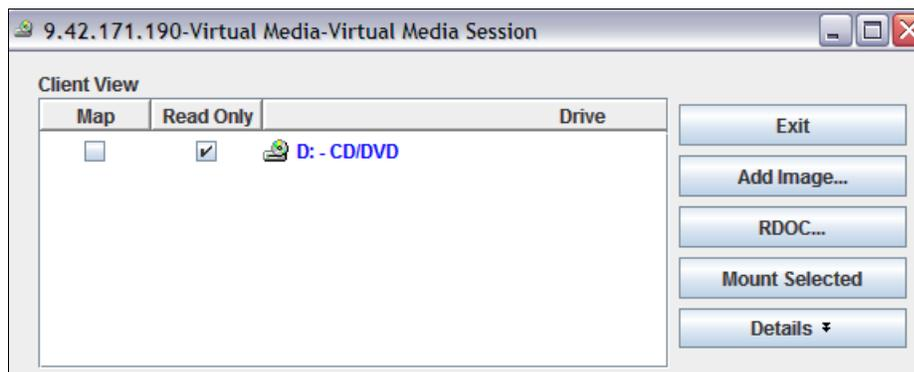

Figure 4-15 Virtual Media Session
5. The Virtual Media Session window is displayed and senses the optical drive that is mapped in the workstation that is being used to access the IMM2. Either select the check box to map the drive found, or if the media is an image to be mounted, click **Add Image** to browse your workstation for the ISO or IMG file needed. Be sure to check the **Map** box next to the mounted image and click **Mount Selected** on the right side. Figure 4-15 shows the Virtual Media Session window.